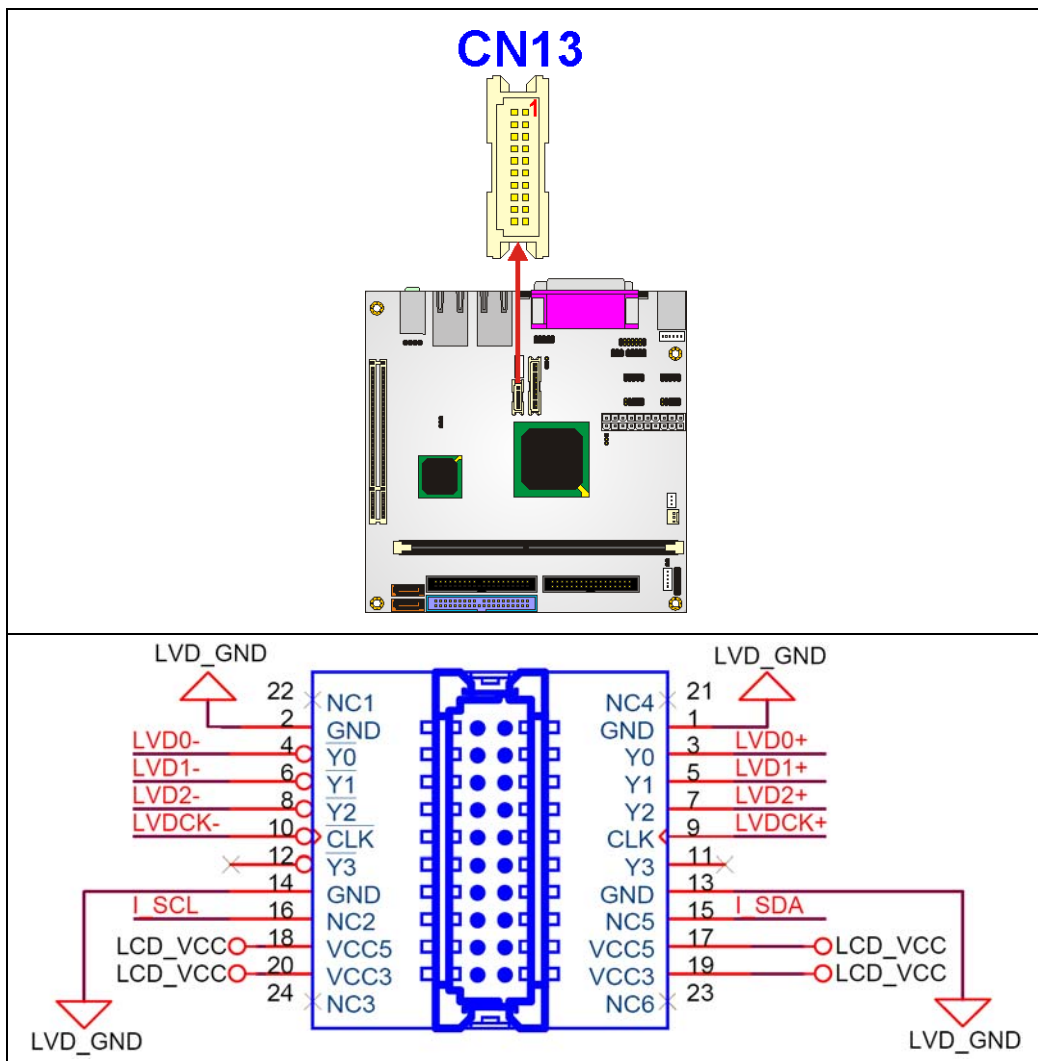

Figure 3-12: LCD LVDS Connector Locations
- CN Location: See **Figure 3-12**